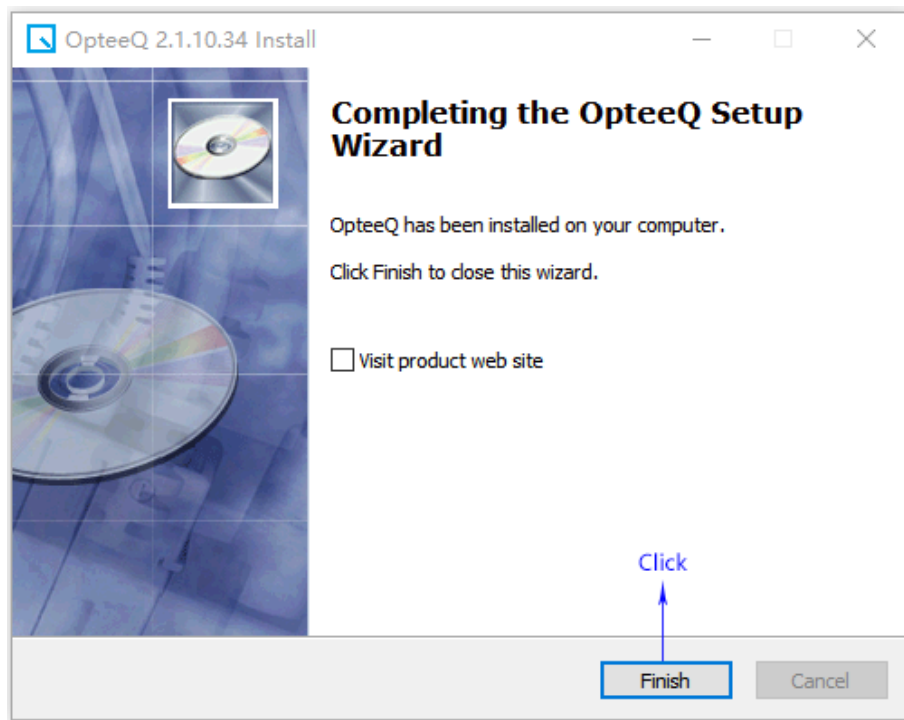

Figure 1.10: Step 10
Step 10: Click "Finish" in the pop-up interface, as shown in Figure 1.10.